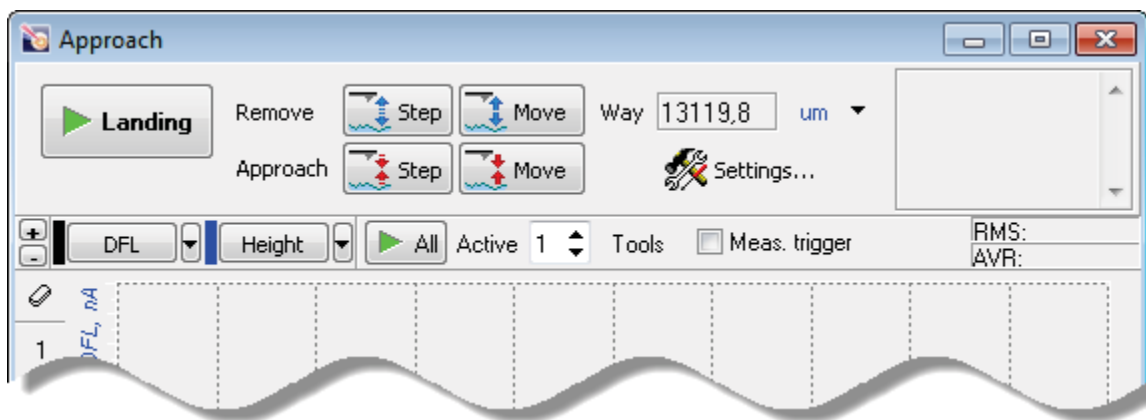

Fig. 10-19. **Approach** window
2. Open the **Approach** window by clicking the  button. To prevent damage of the probe tip by the sample surface when removing the measuring head, retract the sample from the probe by clicking the  button for several times (Fig. 10-19).